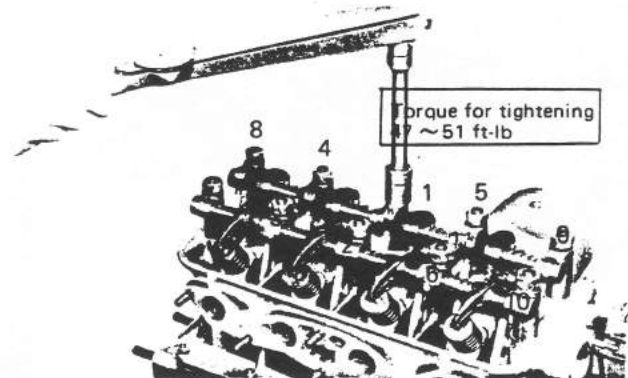

Fig. 131
- f. Tighten the cylinder head holding nuts to 47 ~ 51 ft-lb (6.5 ~ 7.0 m-kp) in the order shown in Fig. 131.